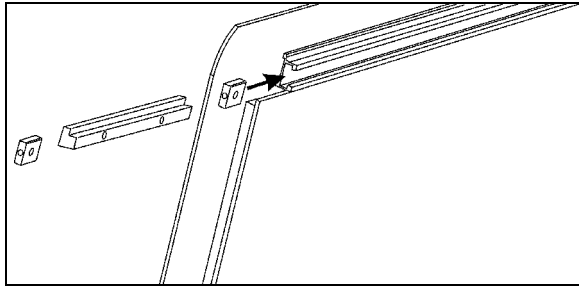
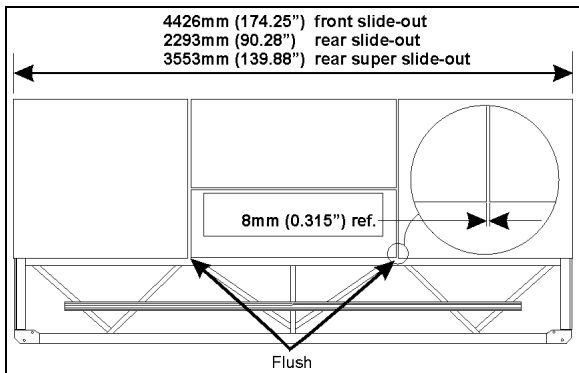

FIGURE 63 : FACE WINDOW INSTALLATION - ANCHORING BLOCKS
FIGURE 64 : FACE WINDOW INSTALLATION
9. **HALF-WINDOW ONLY:** insert anchoring blocks in window extrusion (see FIGURE 63);
2. Insert anchoring blocks in window extrusion (see FIGURE 63) and install window with the lower edge flush with the sliding or awning window (see FIGURE 64);
3. Leave a gap between the face window and the sliding/awning window according to the side-out overall length (see FIGURE 64);